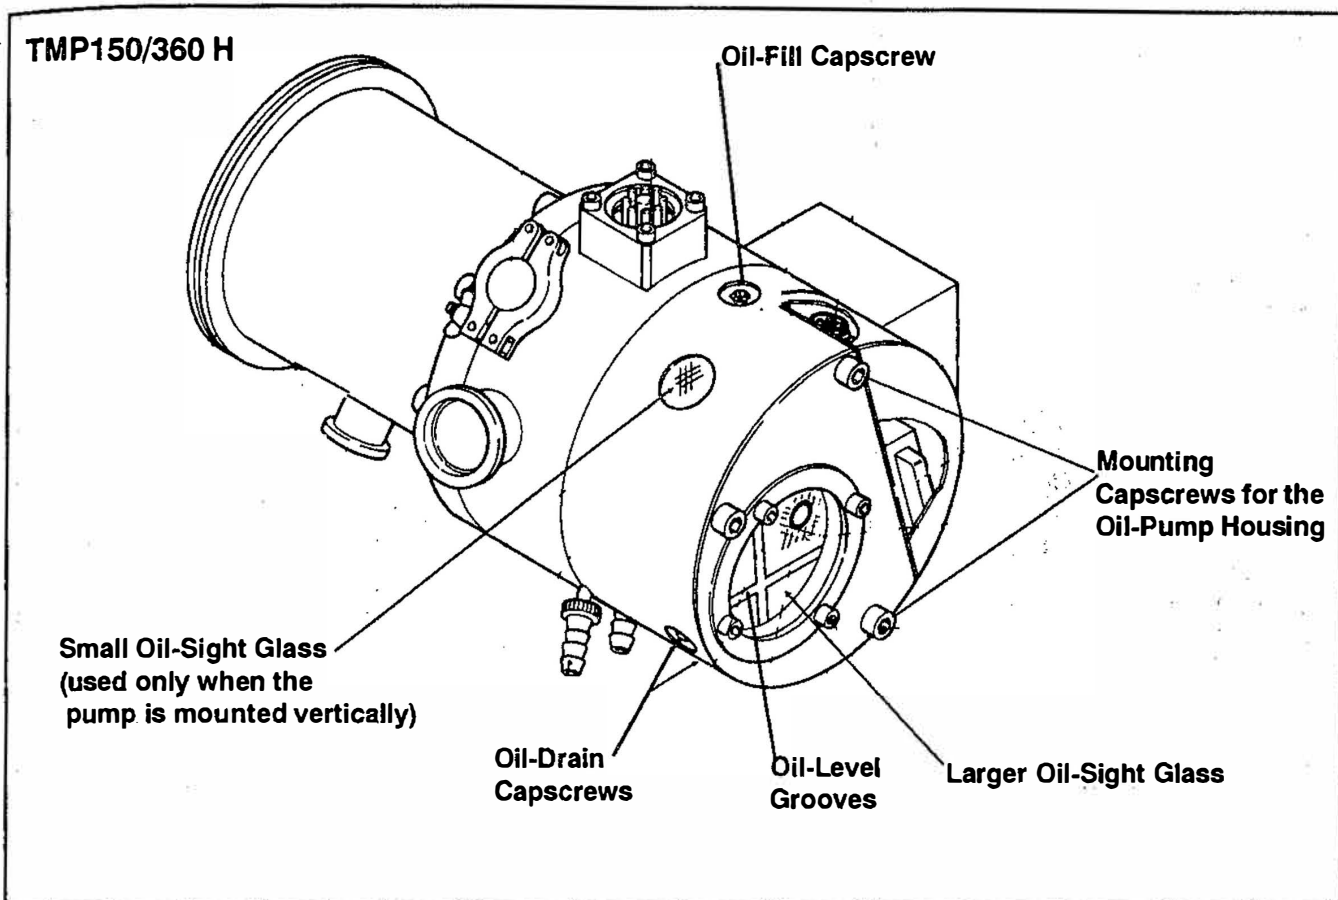

Figure 4-4. TMP150/360 H Pump Model
3. Drain the oil by removing one of the two oil-drain capscrews in the oil-pump housing (see Figure 4-4).
6. Remove the oil-fill capscrew and use the syringe supplied with the pump to add HE-500 oil to the oil-fill port in the pump base (see Figure 4-4). The correct oil quantity depends on the pump's mounting position as shown in Figure 2-2.